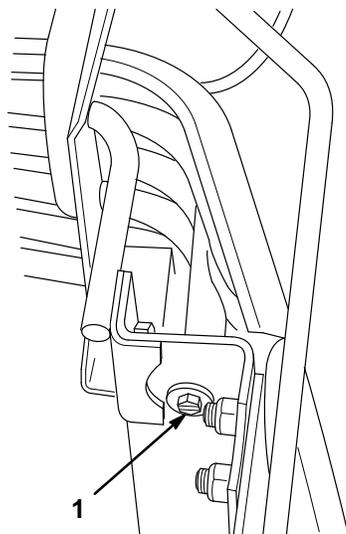

Figure 54
2. Remove the tractor’s front grille by raising the hood and unscrewing the two screws and washers securing it in place (Fig. 54). Close the hood and remove the grille by pulling it out toward you.
7. Replace the front grille of the tractor, securing it with the two previously removed screws and washers (Fig. 54).
6. Replace the front grille of the tractor, securing it with the two previously removed screws and washers (Fig. 54).
2. Remove the tractor’s front grill by raising the hood and unscrewing the two screws and washers securing it in place (Fig. 54). Close the hood and remove the grille by pulling it out toward you.
5. Replace the front grille of the tractor, securing it with the two previously removed screws and washers (Fig. 54).